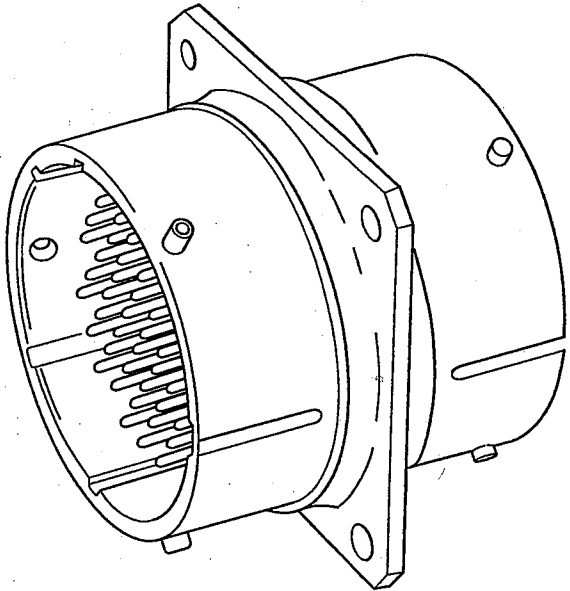

Fig 24 460HTB through bulkhead receptacle, general view
17.1 The 460HTB square flange through bulkhead receptacle (Fig 24) generally conforms to MS3119 specification